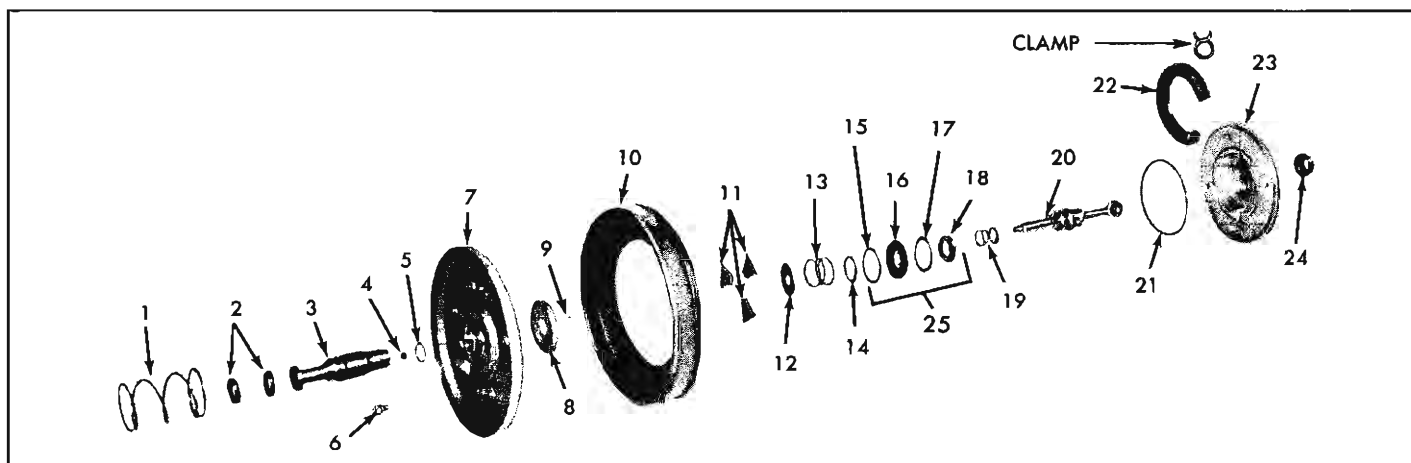
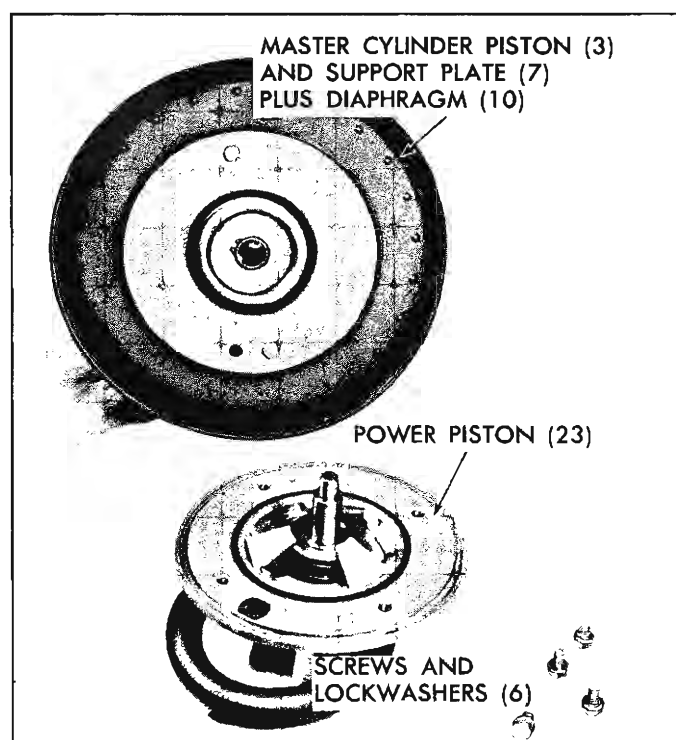
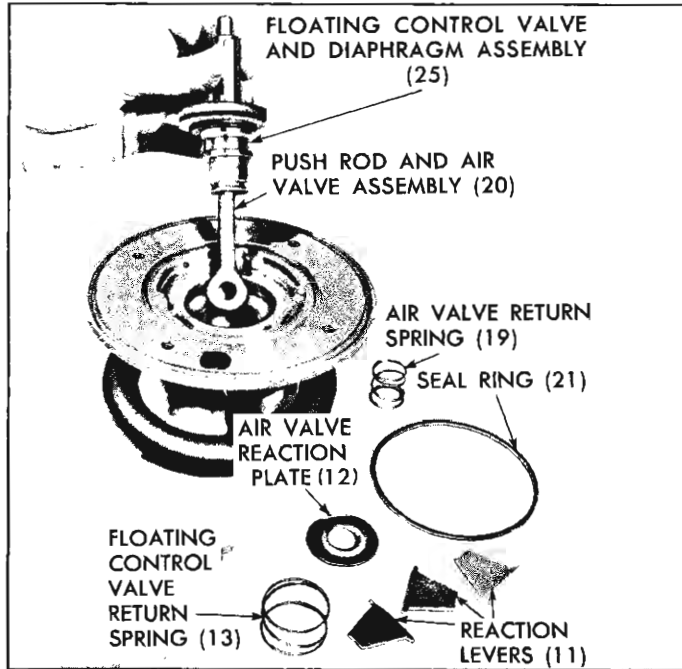
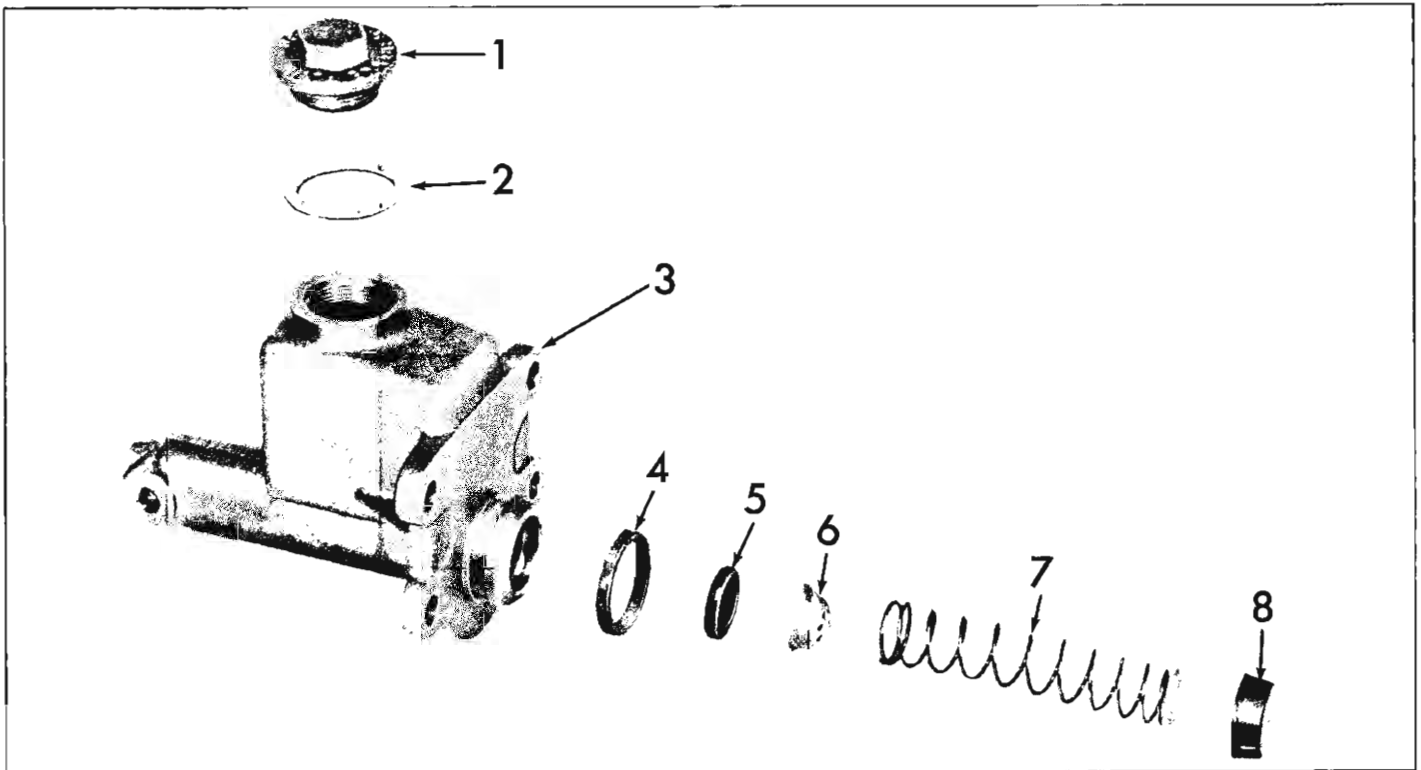

Fig. 44—Power Piston—Exploded View
Fig. 45—Power Piston Disassembly
Fig. 46—Removing Control Valve from Power Piston
Fig. 49—Power Brake Master Cylinder
The Moraine power brake unit (fig. 44) is composed of two main sections, the vacuum power cylinder and the hydraulic master cylinder.
**CAUTION:** Extreme care must be taken in handling the diaphragm (10, fig. 44) of the power piston assembly. The diaphragm should be guarded against grease, oil, foreign matter and must be protected from nicks, scratches or gouges. Care must be taken that the master cylinder piston (3) is not nicked, scratched or distorted.
9. Loosen the four  $\frac{1}{4}$ " screws and lockwashers (6, fig. 44) in the power piston assembly. With the master cylinder piston (3) up, remove the four screw assemblies and lift the master cylinder piston, piston diaphragm plate and power piston diaphragm from the power piston assembly as shown in Figure 45. Lay the piston diaphragm plate and the diaphragm aside.
10. Remove the three reaction levers (11, fig. 44) and the air valve reaction plate (12). Remove the floating control valve return spring (19), and power piston seal ring (21).
11. Turn the power piston over, release the exhaust hose clamp (11) and remove the exhaust hose (24) from the piston assembly, then remove the air valve boot.
12. Push the air valve and push rod assembly (20) through the power piston (23) and remove the floating control valve and diaphragm assembly (25) as shown in Figure 46.
17. From the master cylinder piston assembly, remove the "O" ring (5), two secondary seals (2) and the small rubber bumper (4, fig. 44) which is inside the piston.
18. Remove the master cylinder housing seal (4, fig. 49) from the flange on the master cylinder body (3). Remove the primary cup (8), spring and retainer (7), check valve (6) and valve seat washer (5) from the bottom of the master cylinder bore.
3. Insert the small rubber bumper (4, fig. 44) in the counter-bore of the master cylinder piston (3). Place the two secondary seals (2) in grooves of master cylinder piston with lips TOWARD the small drilled holes in the end of the piston.
9. Place the power piston (23, fig. 44) in fixture or vise with the flat surface up. DO NOT CLAMP.
10. Insert the push rod end of the air valve push rod assembly into the piston as shown in Figure 46 and press down into the piston to seat the air valve.
11. Wipe thin film of silicone grease—"A" on the outside diameter of reaction diaphragm (16).
12. Place the floating control valve and diaphragm assembly (25, Fig. 44) down over the air valve so that the rubber face of the control valve rests on the annular seat in the power piston (23) and press the outer edge of the reaction diaphragm (16) into position in power piston (23).
13. Place the air valve return spring (19) inside the floating control valve (18) to seat on the air valve. Place the floating control valve return spring (13) to seat on the flange of the spring retainer (14). Position the air valve reaction plate (12) over the air valve so the low center portion rests on inner spring (19) (air valve return spring). The outer spring (floating control valve return spring) (13) will also be in a position to engage the reaction lever plate (12).
14. Place the ears of the reaction levers (11) in the machined locations in the power piston and rest the small ends on the reaction lever plate (12) (also refer to fig. 45). Insert seal ring (21) into the inner groove on the flat surface of the power piston face (23).
15. Pull the skirt of the power piston diaphragm (10) down over the piston (23) and place the bead, on the inner diameter of the diaphragm, in the outer groove of the power piston face so the bumpers (buttons) are toward the piston.
16. The master cylinder piston (3) and piston diaphragm plate (7) are positioned over the power piston diaphragm (19) and the lugs on the plate are aligned with the depressions in the power piston.
17. The snap ring (9) on the master cylinder piston must be rotated so the lobes are located between the reaction levers (11). The ears of the reaction levers must maintain their positions in the machined seats on the power piston (23) as the piston diaphragm plate (7) contacts the power piston face. The position of the bead and levers MUST be correct as the support plate is finally positioned and the four ¼" screws and lock washers (6) bolted through the support plate into the power piston. Torque to 65-85 in. lbs.
- air valve boot (24), Position large lip of the boot in groove of power piston, and then place small diameter lip in the groove in the air valve.
19. Coat the outside diameter, in the end, of tube-like boss on power piston (23) with "3M Adhesive," or equivalent, and allow 30 - 60 seconds to air dry, then slip the exhaust hose (22) fully on the boss so hose is parallel to the power piston.
20. To mount the master cylinder on the front shell (5, fig. 41), assemble the gasket (2, fig. 49) on the filler cap (1) and install, finger tight on the reservoir filler opening. Place the seal (4) master cylinder to housing, in the groove on the master cylinder body (3).
22. Invert the assembly and place it in a vise or fixture, so that the master cylinder bore is now accessible. Into this bore, place the valve seat washer (5, fig. 49). Press check valve (6) into open end of spring and retainer assembly (7) and position in the bore with the check valve (6) against the valve seat washer (5). Dip the primary cup (8) into clean brake fluid and position it in the bore with lips over the spring and retainer (7).